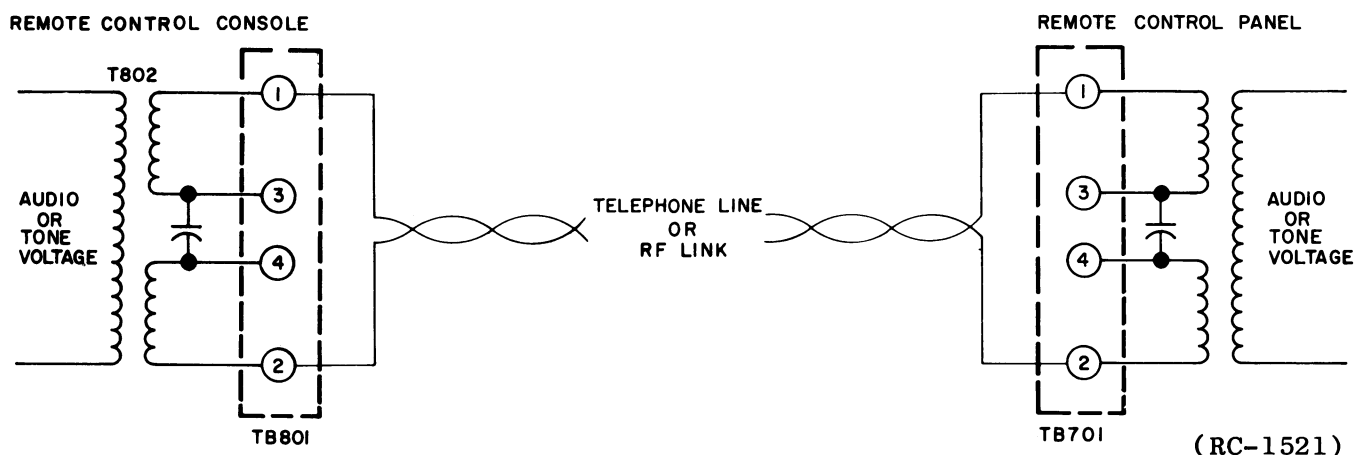

Figure 1 - Tone Control Connections
4. For Tone Control Method: Any circuit capable of handling audio frequencies 300 to 3000 cps range can be used. It is not necessary to observe polarity in wire line connections. Make connections as shown in Figure 1.